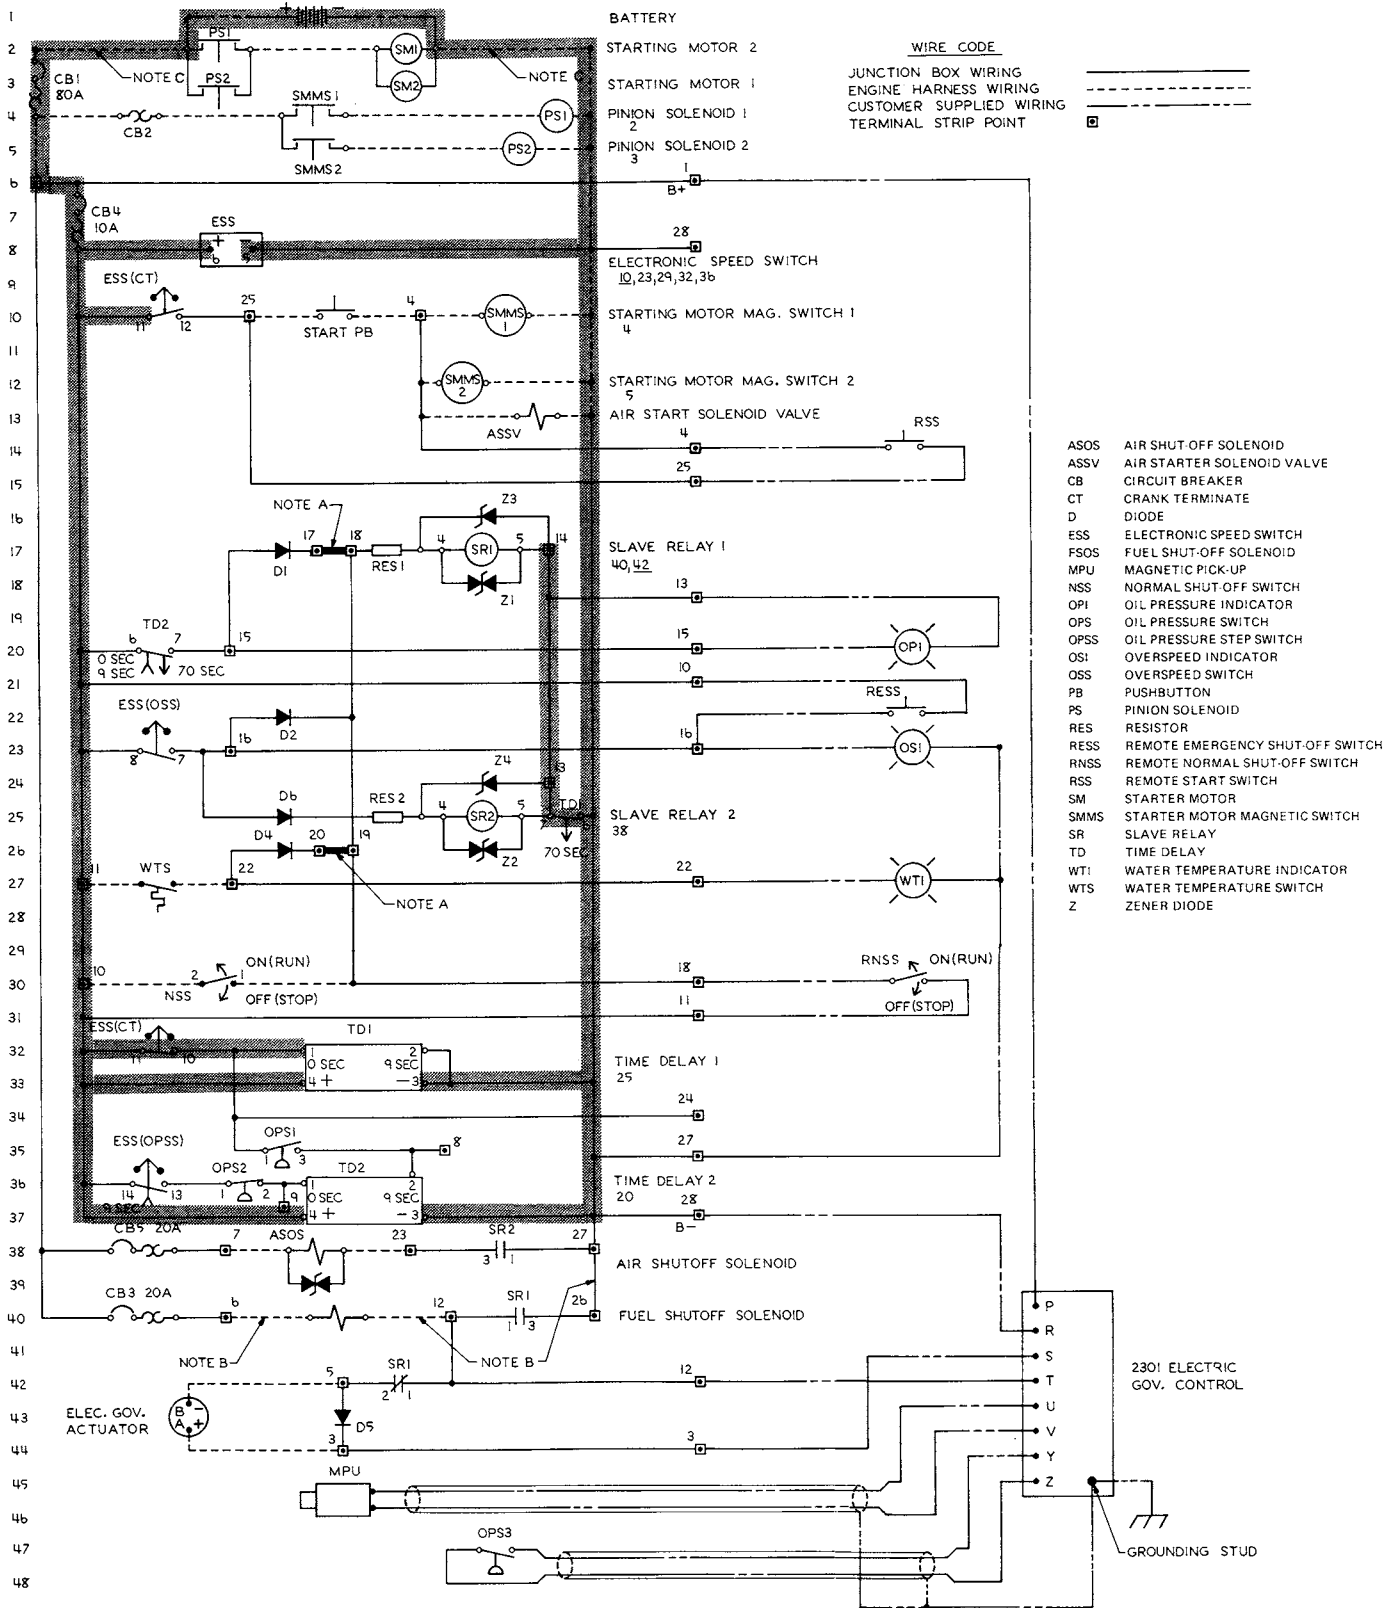

Fig. 3
When the engine starts to run, the speed will increase to the speed setting of the ESS crank terminate function, and the ESS(CT) switch across terminals ESS-11 and ESS-12 will open. The current flow is now stopped to the start pushbutton for the starter motor(s) as shown in Fig. 3.